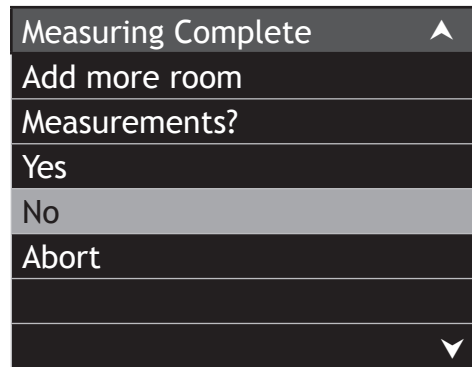

Figure 42
11. With the menu choice NO highlighted, press the SELECT Push-button to continue. Refer to figure 42.